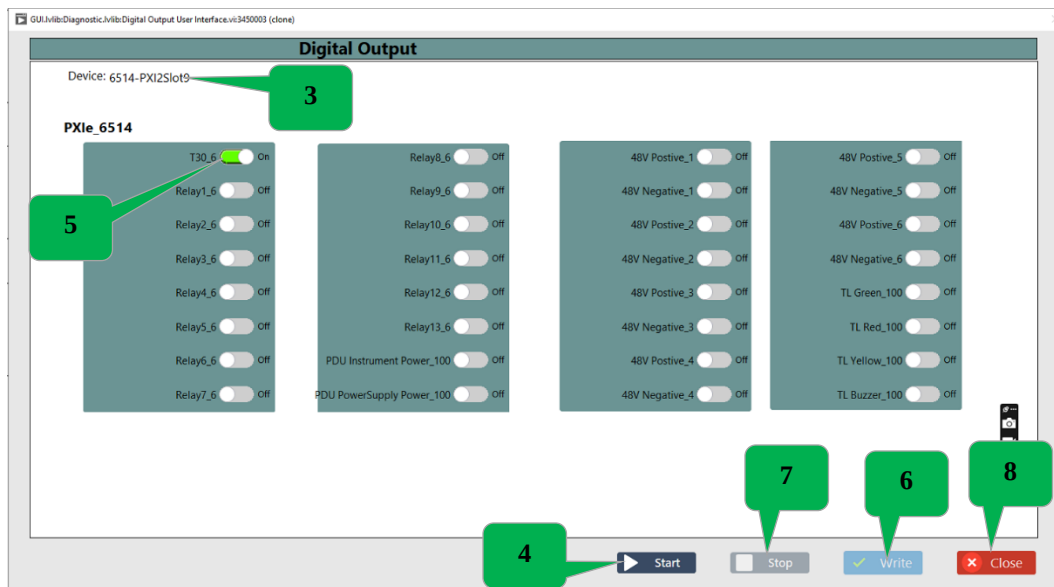

Figure 49: Digital Output
- 2) Click the Digital Output Diagnostic Button and Refer Fig 49.